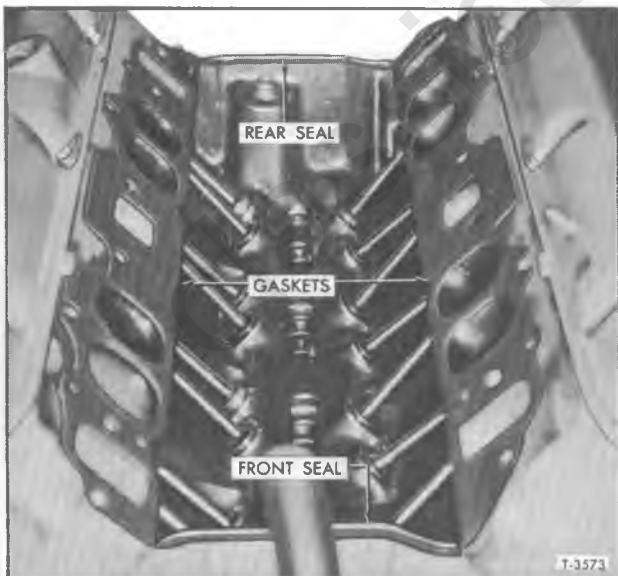

Figure 28—Intake Manifold Gaskets and Seals
2. Install manifold seals on block and gaskets on cylinder heads (fig. 28). Use sealer at water passages and where seals butt against gaskets.